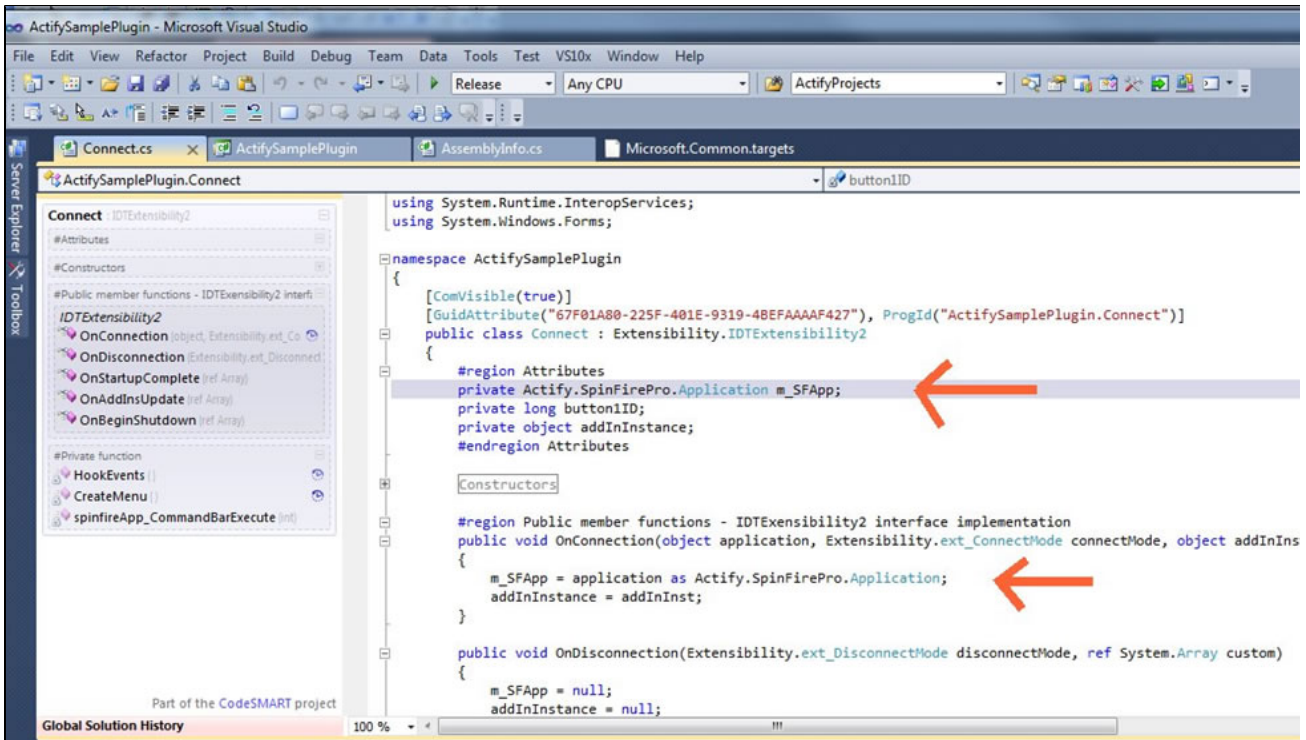

Figure 2 - C# source code modifications
4. Modify all your C# code (*.cs) that references **Actify.Spinfire.interop** to **Actify.SpinFirePro**. The same needs to be done for XView3D references. See **figure 2** for example modifications in the Actify sample plug-in C# code.